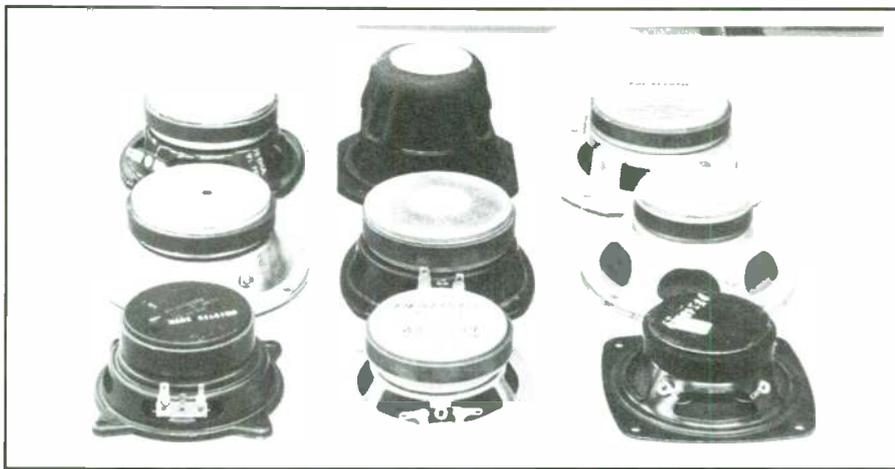

FIGURE 2: A sample of the drivers used in my initial tests.
**TESTING DRIVERS.** Over the years I have assembled a collection of odd-ball speakers, including several midrange drivers. Through the aid of a friend, who managed a local electronics store stocked with raw drivers, I was able to test a representative sample of midrange cone and dome drivers. The total collection, between my own and the store's contribution, was about 20. A sample illustrating the variety is shown in *Fig. 2*.